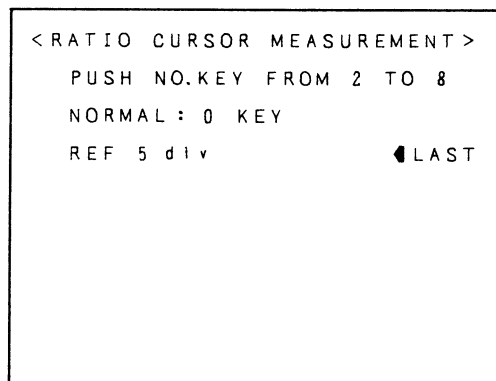

Fig. 8-4
- 2) Press the 2 key, and the display in Fig. 8-4 appears.